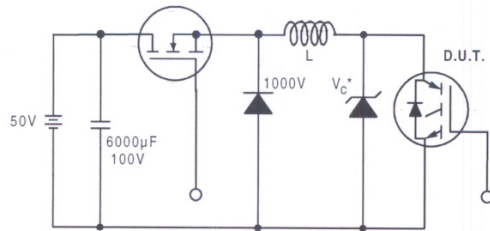

Figure 19. Clamped Inductive Load Test Circuit
- ② $V_{CC}=80\% (V_{CES})$, $V_{GE}=20V$, $L=10\mu H$, $R_G = 23\Omega$ (figure 19)
- ③ Pulse width $\leq 80\mu s$; duty factor $\leq 0.1\%$.
- ④ Pulse width 5.0 μs , single shot.